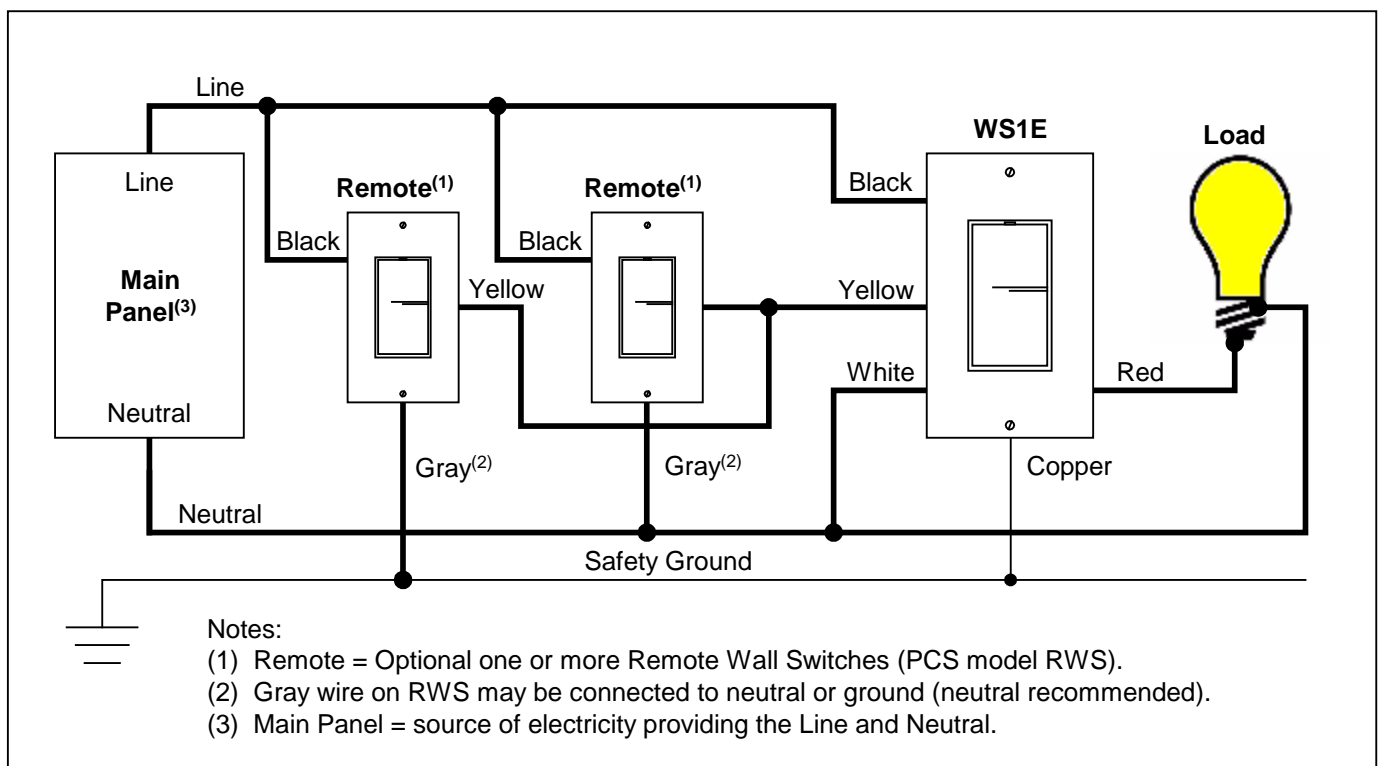

Figure 3: Wiring Diagram
4. Install the WS1E Wall Switch connecting wires per wiring configuration shown in Figure 3.
5. Optionally install any RWS Remote Wall Switch per wiring configuration shown in Figure 3.